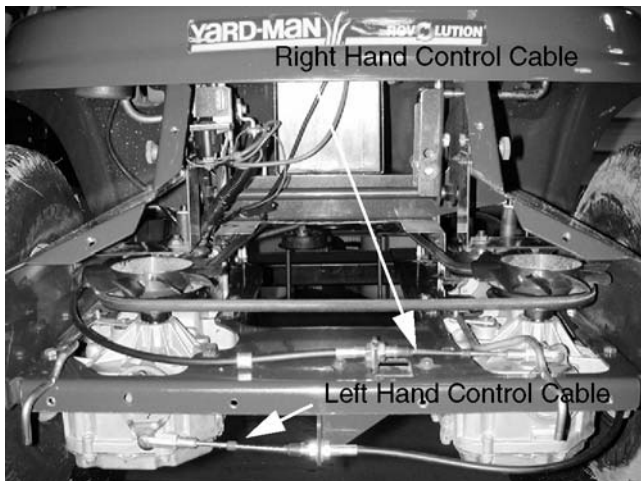

**Figure 11-25**
7. Remove the hairpin clip and clevis pin that holds the control cable to the control arm on the IZT. See Figure 11-25.